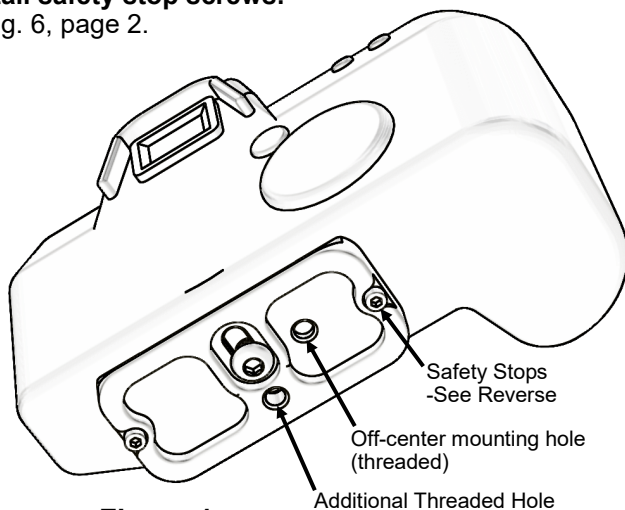

Figure 1
1. Position the P-5 lengthwise as shown in Fig. 1